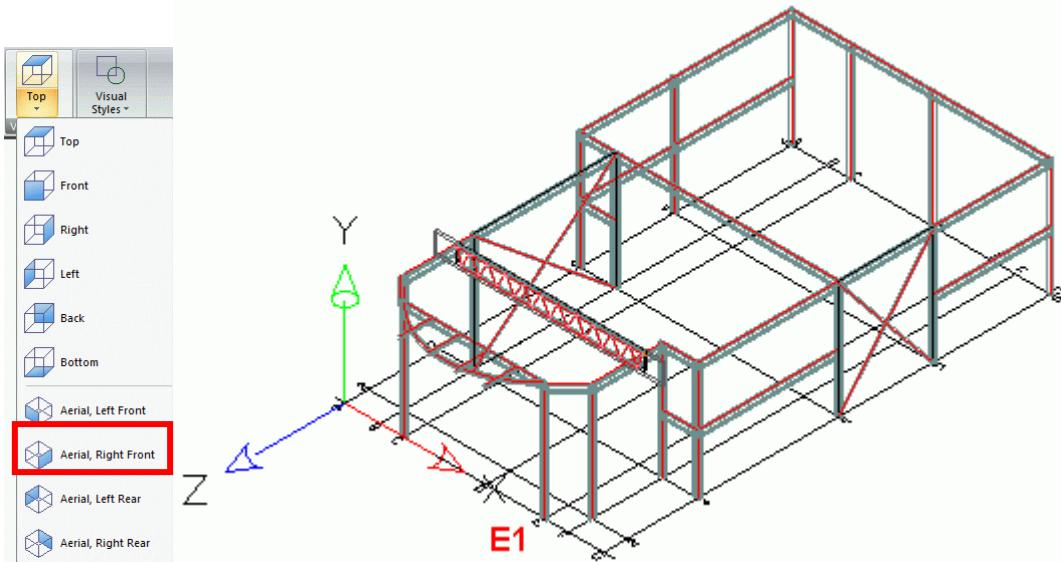

Figure 83: The **E1** column
1. Place the UCS in a suitable position as in Figure 83. The XY plane is in the elevation plane.